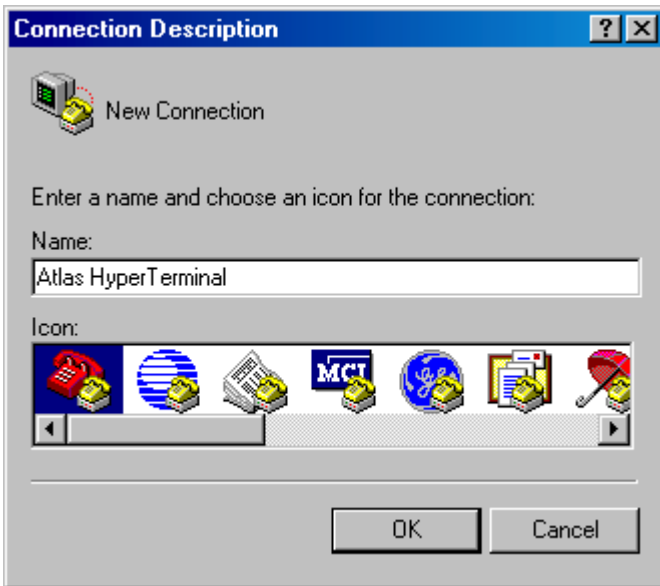

Figure 2-1. Example of a new HyperTerminal connection.
- When you open HyperTerminal you will see a screen similar to the example in Figure 2-1. You will be prompted for a connection description. Choose any name. After you type in a name click **OK**.